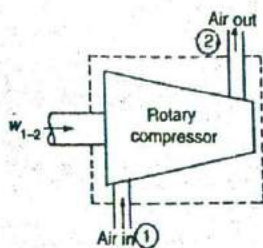

Fig. 3.34. Rotary compressor.
6. *Rotary compressor.* A rotary compressor, as shown in Fig. 3.34, is a device which compresses air and supplies the same at moderate pressure and in large quantities. The rotary compressor is insulated so that no heat transfer takes place (i.e. $q_{1-2} = 0$). In other words, the flow through a rotary compressor is adiabatic.